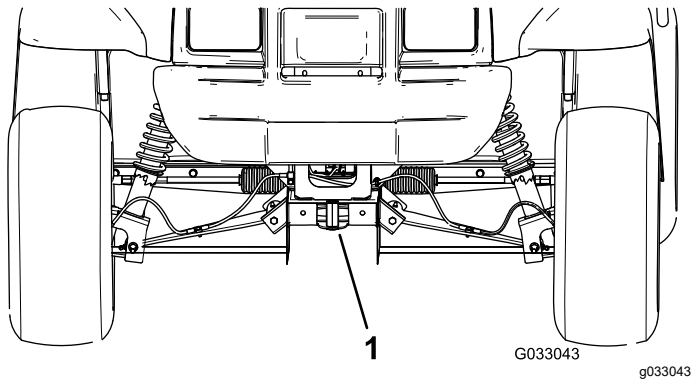
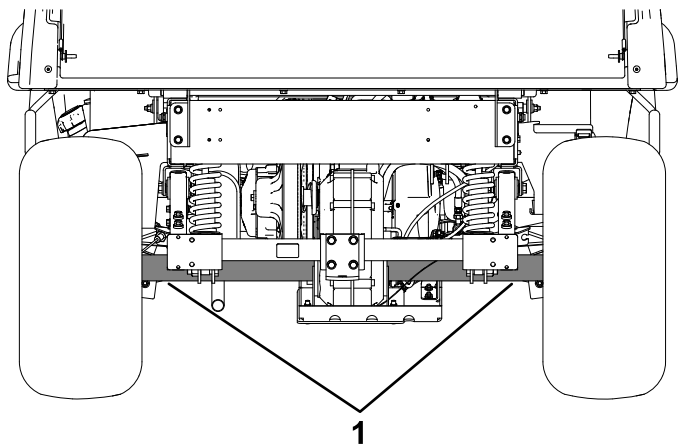

Figure 17
Figure 18
Refer to Figure 17 and Figure 18 for the tie-down locations on the machine.
2. Affix a tow line to the tongue at the front of the machine frame (Figure 17).